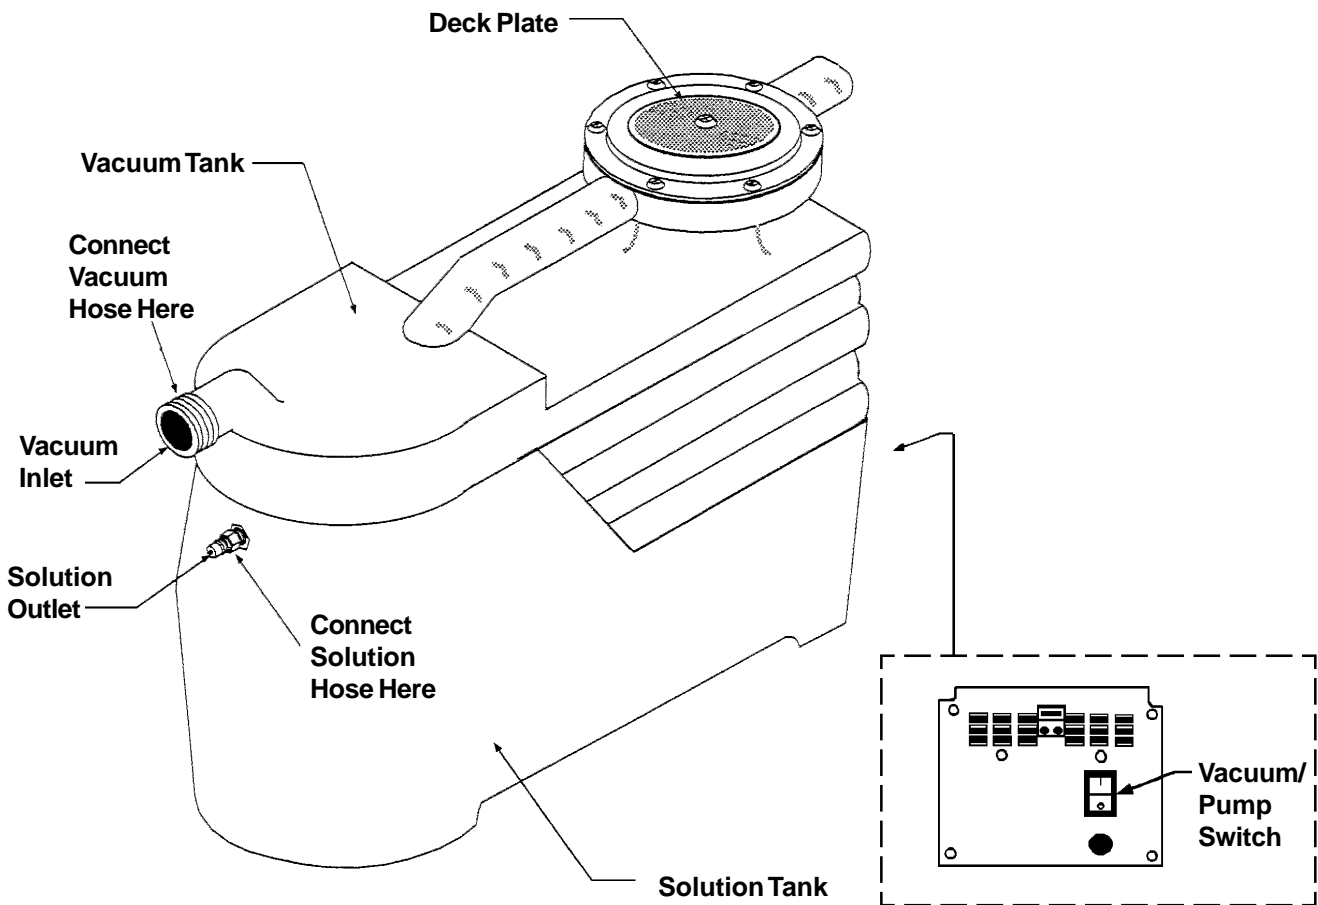

Figure 2
4. The shutoff float inside the vacuum tank will impede the vacuum flow when the vacuum tank is full. When this occurs, empty the vacuum tank by removing the deck plate from the vacuum tank (fig. 2, pg.3) and pouring the contents into a five gallon pail or toilet. Dispose of the waste in a proper manner. Once the vacuum tank has been emptied, you may proceed with cleaning.